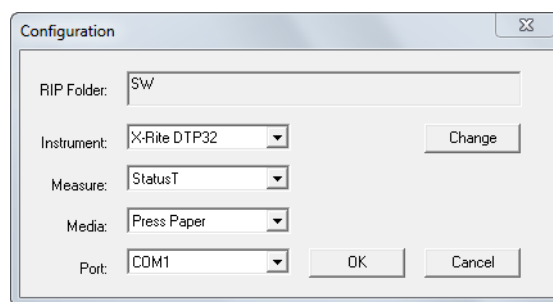

Figure C.1 Configuration dialog box
1. Choose **File > Configure** to display the Configuration dialog box, as shown in Figure C.1.
The default is the relative path to the `sw` folder of the the RIP with which Genlin is supplied (as shown in Figure C.1).